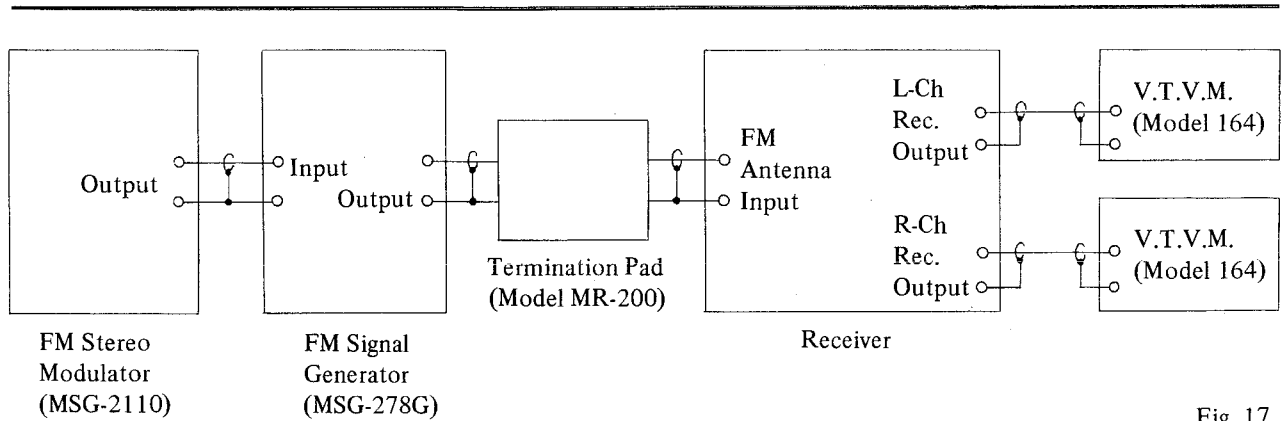

Fig. 17
- 1) Connect the various measuring instruments as shown in Fig. 17.
- 6) After the above adjustments have been completed, adjust the core of FM MPX. Amp. P.C. Board coil T303 so that the indication of the high sensitivity V.T.V.M. connected to the left channel Rec. output is maximum. (For measuring instrument connection method, refer to Fig. 17.)
- 7) Adjust main chassis semi-fixed resistor VR551 (5 kΩ) shown in Figs. 1 and 3 so that the indication of the high sensitivity V.T.V.M. connected to the right channel Rec. output is minimum. (For measuring instrument connection method, refer to Fig. 17.)